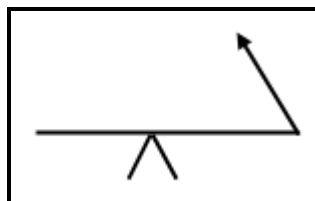

FIGURE 5.8.1 (1)
5.8 Identify the positions of the welds, as indicated by the welding symbols in FIGURES 5.8.1 and 5.8.2 below.